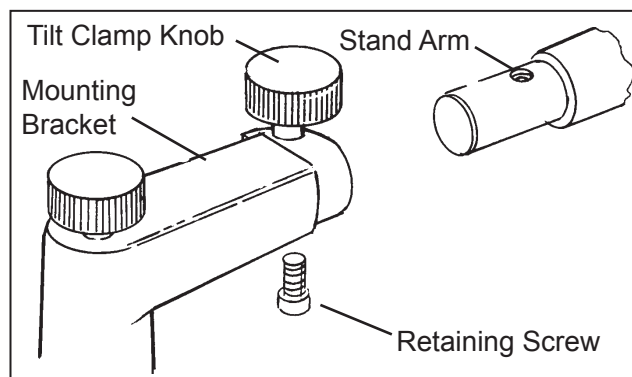

Figure SU-1 Attaching Phoroptor to Stand
1. Place the Phoroptor on the instrument stand arm by sliding the Mounting Bracket over the end of the arm until the threaded hole of the stand arm lines up with the slotted hole in the bottom of the Mounting Bracket. Refer to Figure SU-1.
2. A Retaining Screw has been provided to prevent the Phoroptor from falling off the stand. Insert the screw up through the slotted hole and thread it into the stand arm. Tighten the screw firmly in place. Refer to Figure SU-1.
3. Tighten the Tilt Clamp Knob and the Phoroptor will be held firmly in the desired position. Refer to Figure SU-1.